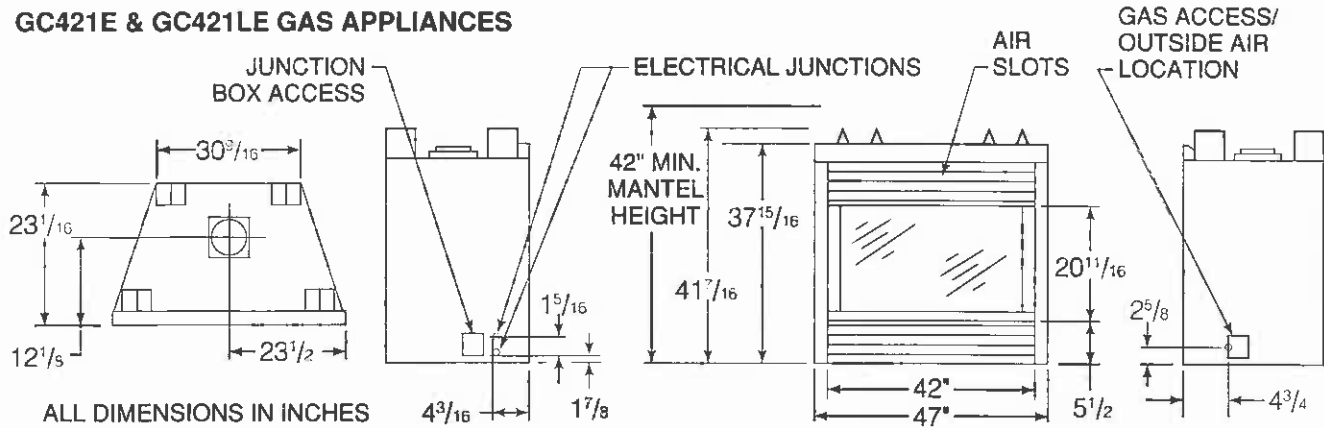

Figure 1
**NOTE:** You cannot cover any of the air slots in the appliance, as this may create a fire hazard. See Figure 1 for air slot location. A combustible mantel may be installed at a minimum of 42 inches above the base of the appliance.